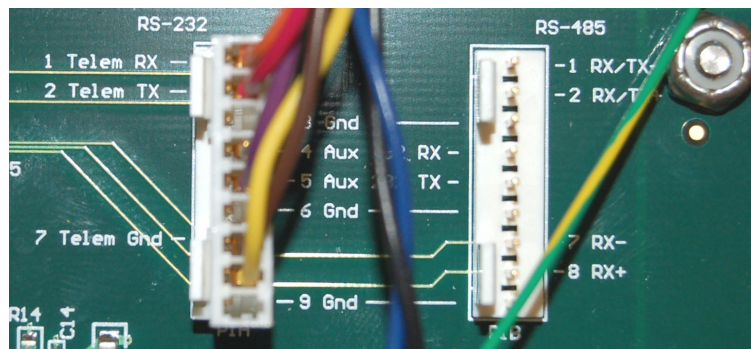

Figure 12 RS-232 / RS-485 connection points
The RS-232 (P1A) connector (default) and the RS-485 (P1B) connector are located at the upper right side of the processor board (Figure 12).
2. To select RS-232 or RS-485 protocol in the master controller, install the J1 connector (terminating the power/telemetry wire bundle) to the appropriate connector on the PC board. In Figure 12, the J1 connector is connected to the RS-232 (P1A) connector.